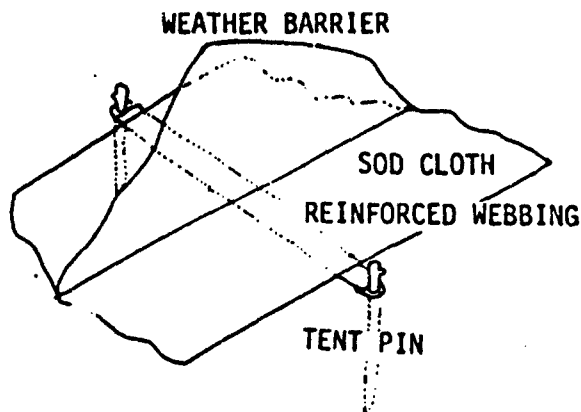

Figure 48. Anchoring of arch tube base
2. Each person should locate the green base anchor straps under the bottom of each arch tube. (Figure 48).
14. Secure sod cloth on both the inside and outside using 2-1/2 lb hammer and red tent pins included with the THE. (Figure 48).